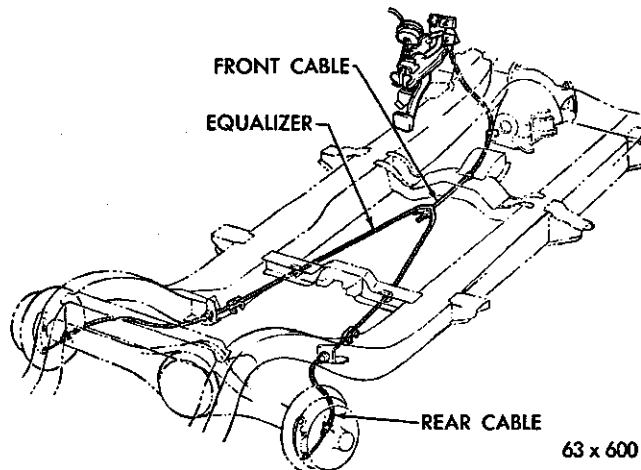

Fig. 11—Parking Brake Cable Routing (Imperial)
(1) Release the parking brake lever and loosen the cable adjusting nut to insure the cable is slack (Fig. 11 or 12).
(2) Tighten the cable adjusting nut until a slight drag is felt while rotating the wheel, loosen the cable adjusting nut until both rear wheels can be rotated freely, then back off the cable adjusting nut two full turns.
(3) Apply the parking brake several times, then release and test to see that the rear wheels rotate freely without dragging.
The independent brake cables are attached to an equalizing cable by "C" type brackets, as shown in Figure 11. The cable is adjusted at the spreader clamp at the center of the equalizing cable.
Should it become necessary to remove the parking brake cable (rear), for installation of a new cable, refer to Figure 11.